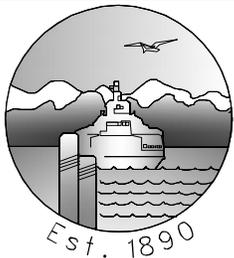

**FIGURE 6.8
6. DRAIN SHALL BE SIZED IN ACCORDANCE WITH AWWA CROSS CONNECTION CONTROL FIGURE 6-8 (SEE COE STD DTL WA-160C).
(FIGURE 6.8)**